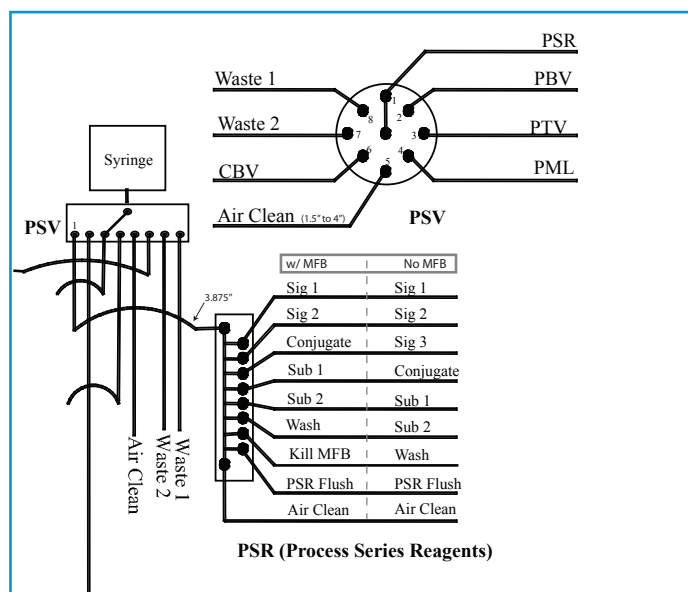

Figure 5-14: PSV and PSR, close up of ESP Fluidics Worksheet
The organization of the flow of reagents through the ESP is shown in the ESP Fluidic Worksheet. Figure 5-14 shows the portion of the worksheet containing information the Processing Syringe (PS) and processing series reagents. The valve leading to the processing syringe is called the Processing Syringe Valve (PSV), and the valve manifold for the reagents is referred to as the PSR (Processing Series Reagents).